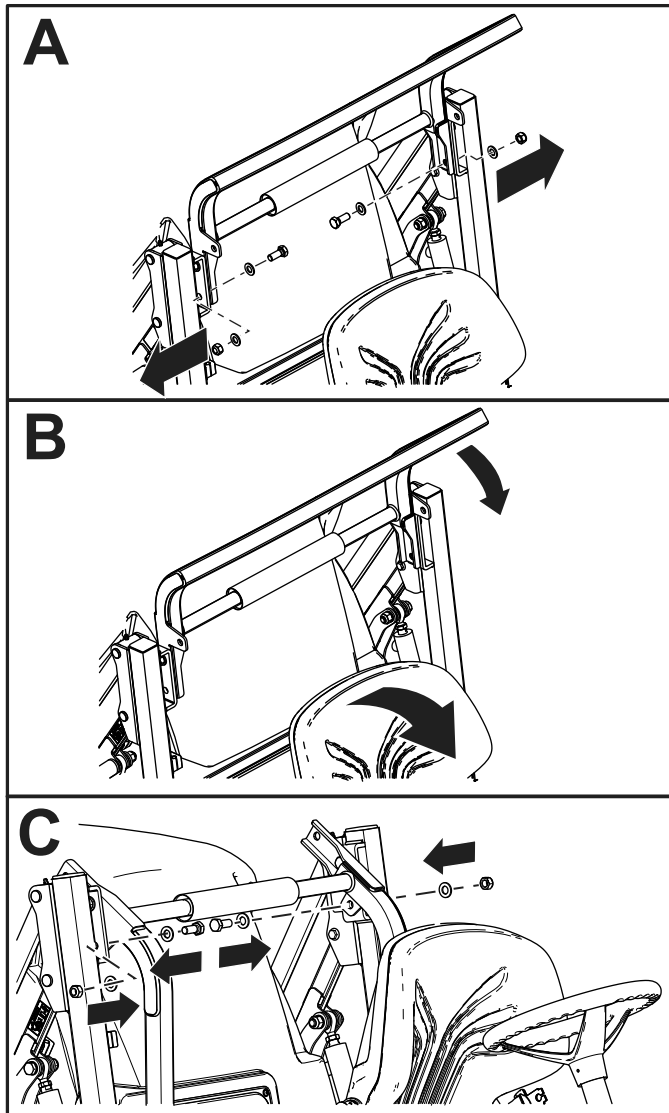

Figure 18
4. Remove the nuts, bolts, and washers (Figure 18).
5. Tilt the seat forward (Figure 18).
6. Lower the roll bar and secure it in place with the nuts, bolts, and washers (Figure 18).
Note: Use Figure 18 in reverse order to raise the roll bar.
- Remove the nuts, bolts, and washers from the roll bar (Figure 18).
- Raise the roll bar and secure it in place with the nuts, bolts, and washers (Figure 18).